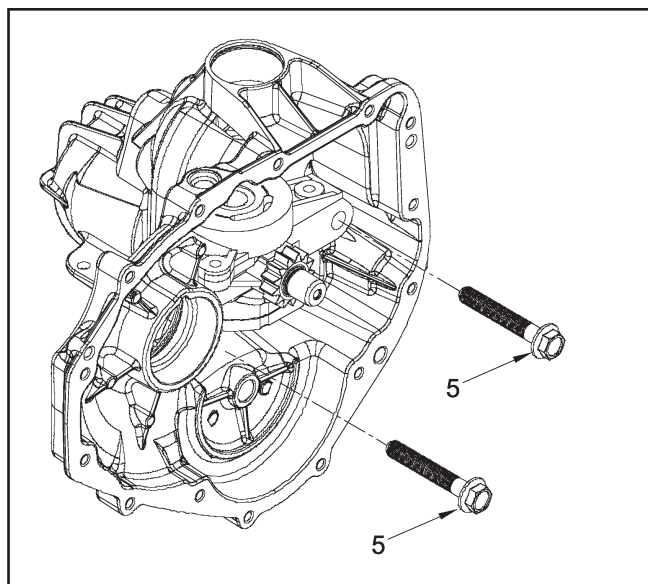

Figure 15
13. **(See Figure 15)** Remove the center section mounting screws (5). NOTE: The center section is under motor block piston spring pressure. These screws are factory installed to 700 lb-in (80 Nm) and use an anaerobic thread adhesive. A breaker bar will be required at this step. Clean the internal threads of the mounting holes with compressed air.
12. **(See Figure 15)** After applying thread adhesive, insert the center section mounting screws (5) while holding downward pressure